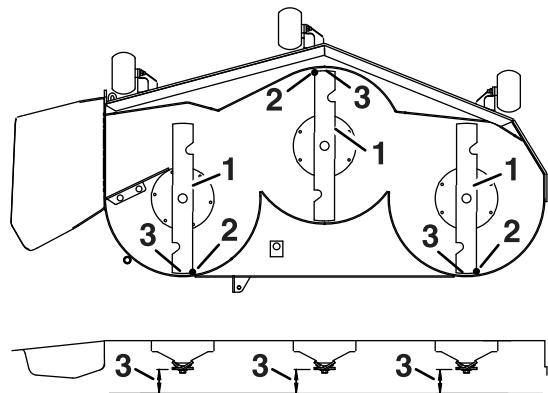

Figure 73
4. Carefully rotate the blades so they are facing front to rear (Figure 73).
5. Measure from the tip of the front blade to the flat surface and the tip of the rear blade to the flat surface (Figure 73).